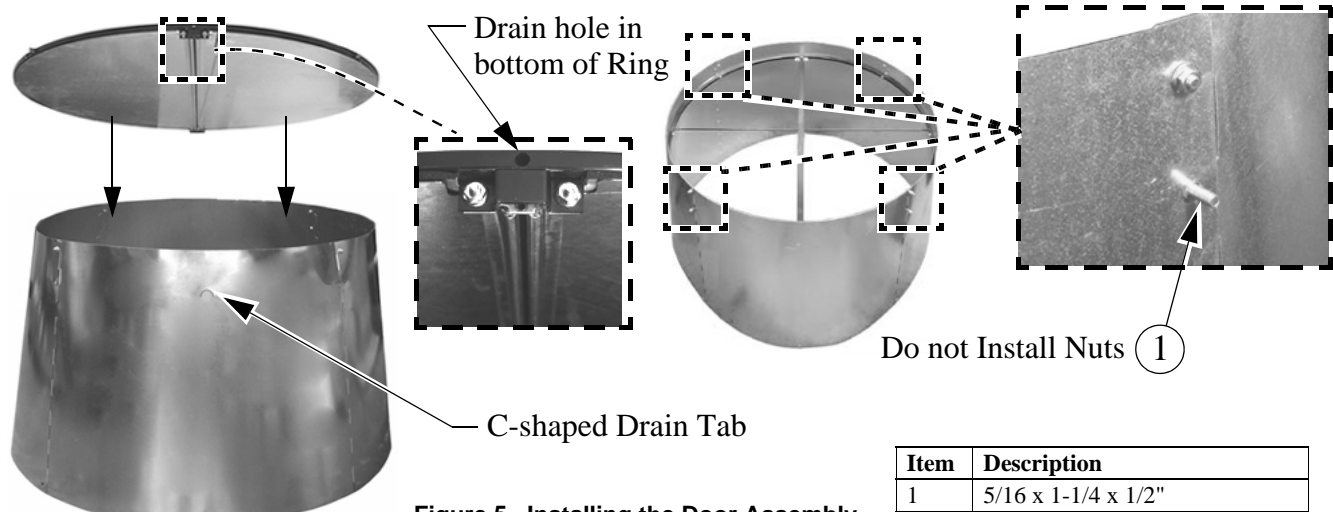

Figure 5. Installing the Door Assembly
Orient the Door Assembly such that the bottom is lined up with one of the C-Shaped Drain Tab in the Cone Assembly. The bottom of the Door Assembly can be identified by a drain hole in the Ring (See **Figure 5**). Line up the Four Holes in the Door Ring with the holes in the Cone and thread (4) 5/16 x 1.25" Bolts (**Item 1**) in until they are tight. Do not install Nuts at this time. These Bolts will be used later to attach the Cone Brackets to the Cone Assembly.